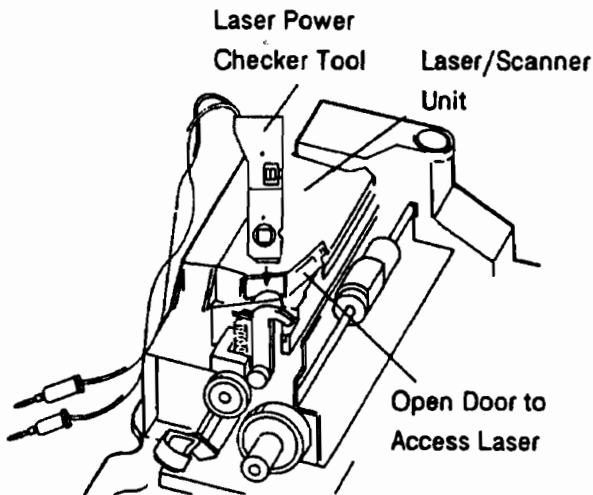

Figure 7-30. Installing Laser Power Checker Tool
5. Open the plate covering the access hole for the laser power checker tool on the Laser/Scanning Assembly. Install the laser power checker tool into the opening (see Figure 7-30).
9. With the laser tool installed (see Figure 7-30), the interlock switches defeated, and the voltmeter connected, perform a self test and verify the laser output.